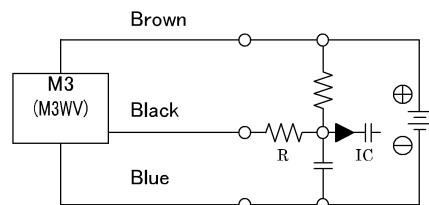

Fig.4 Example showing capacious load (capacitor) is connected. Resistance R (Ω) must be larger than the following equation in this case.
- When a capacious load (capacitor) is connected, rush current is generated when the switch is turned ON. Provide the following protective circuit. (Fig.4)